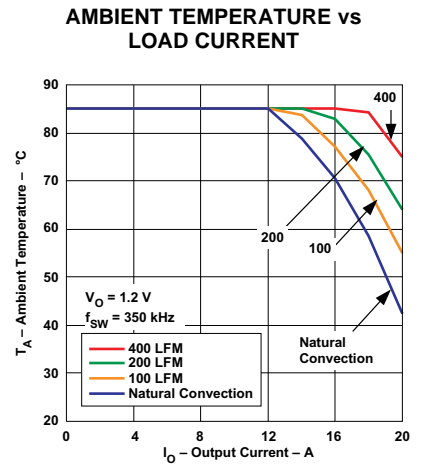
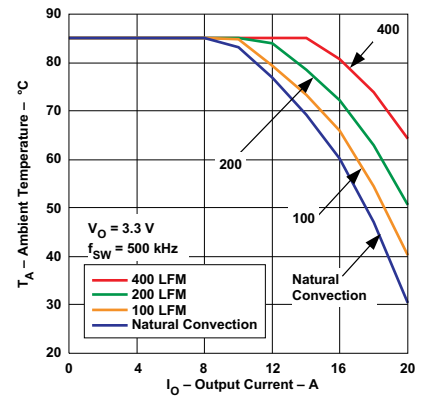

Figure 6. Safe Operating Area
Figure 9. Safe Operating Area
- (2) The temperature derating curves represent the conditions at which internal components are at or below the manufacturer's maximum operating temperatures. Derating limits apply to modules soldered directly to a 100 mm x 100 mm double-sided PCB with 2 oz. copper. Please refer to the mechanical specification for more information. Applies to Figure 6 thru Figure 9.